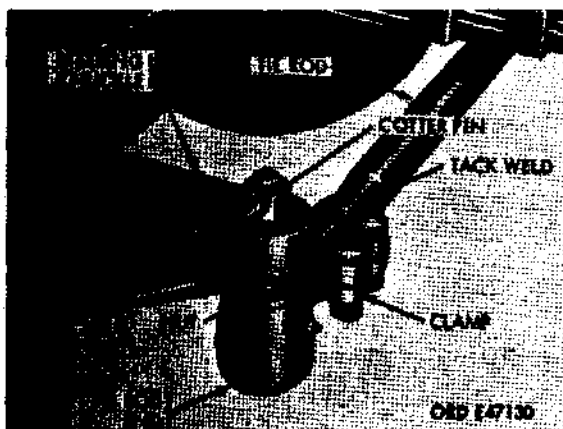

Figure 340. Tie rod assembly
a. Remove Tie Rod Assembly (Fig. 340).
- (1) Remove cotter pin and nut from tie rod end.
- (2) With suitable tools remove tie rod end from steering knuckle.
- a. Tie rod assembly (figure 340).
(1) Screw tie rod end on tie rod.
(2) Torque tie rod clamp nuts to 45 to 55 feet-pounds.